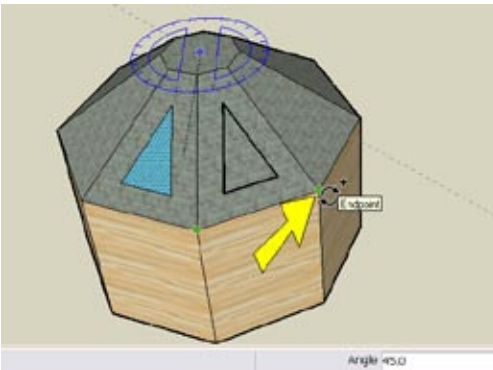

Figure 1-45
- Click an adjacent octagon corner, and the Angle field informs you that the angle is 45 degrees (Figure 1-45).